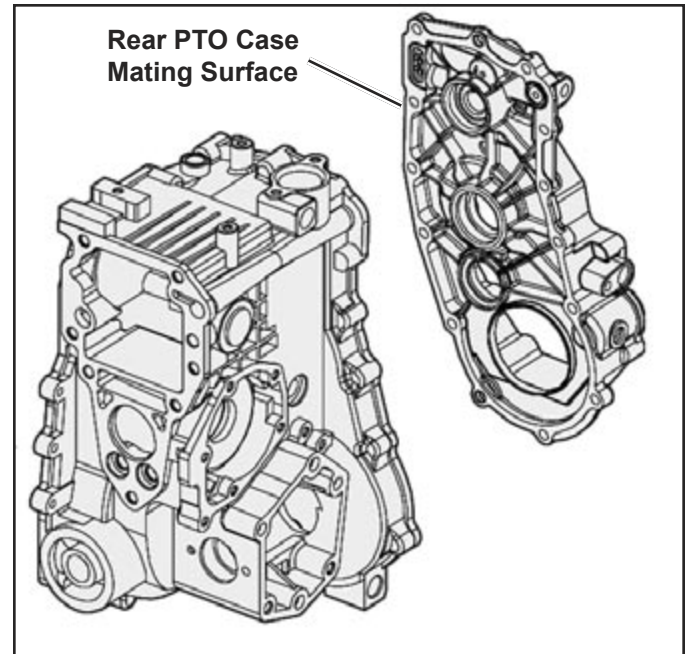

Fig. 23, Rear PTO Cover and Transaxle Case Assembly
1. Clean mating surfaces of rear case and transaxle case. Be sure threaded holes are clean. (Fig. 23)
3. Apply a bead of silicon sealant to rear case mating surface. (Fig. 23)